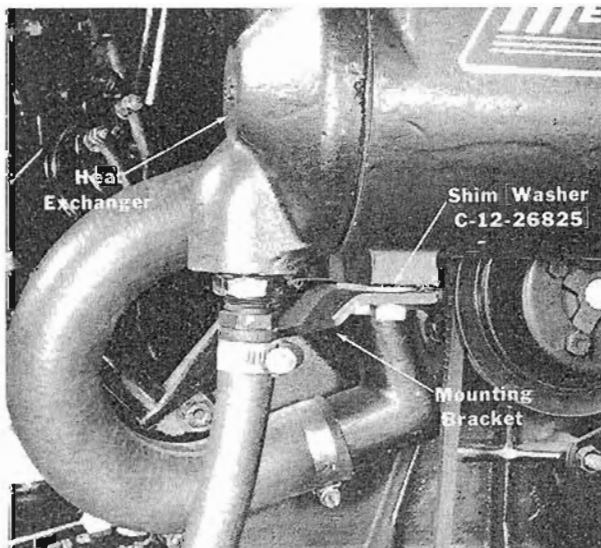

Figure 7. Installing Shims
If leakage is found to occur between water outlet housing and thermostat housing on the MerCruiseRover diesel engine, shims must be placed between mounting bracket and heat exchanger. (Figure 7) When installing shims, use following procedure:
2. Shim with washers (C-12-26825), as required, between mounting bracket and heat exchanger (Figure 7) until screw holes in water outlet housing are aligned with threaded holes in heat exchanger.